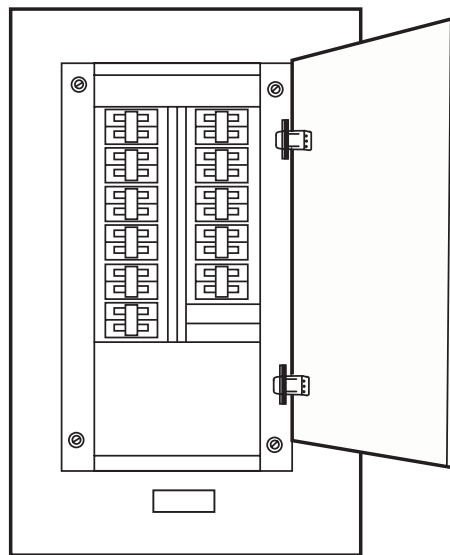

Figure 3. 120V Main Deck 01 & 02 Emergency Lighting Panel No. 1
- c. 120V main deck 01 & 02 emergency lighting panel No. 1 (figure 3), located in the crew's mess.